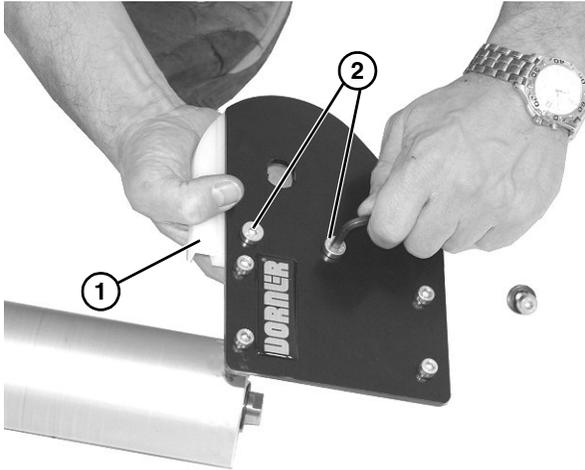

Figure 47
7. Check idler terminal assembly (**Figure 47, item 1**) for wear. If worn, remove two low head cap screws (**Figure 47, item 2**) and replace.